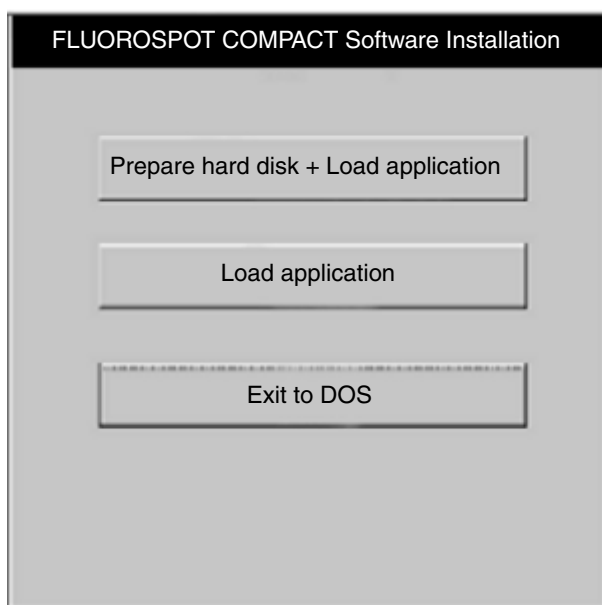

Fig. 7: FLUOROSPOT COMPACT Software Installation
- ⇒ The PC reboots from the CD drive and then the “FLUOROSPOT COMPACT Software Installation” menu appears (Fig. 7 / p. 11).